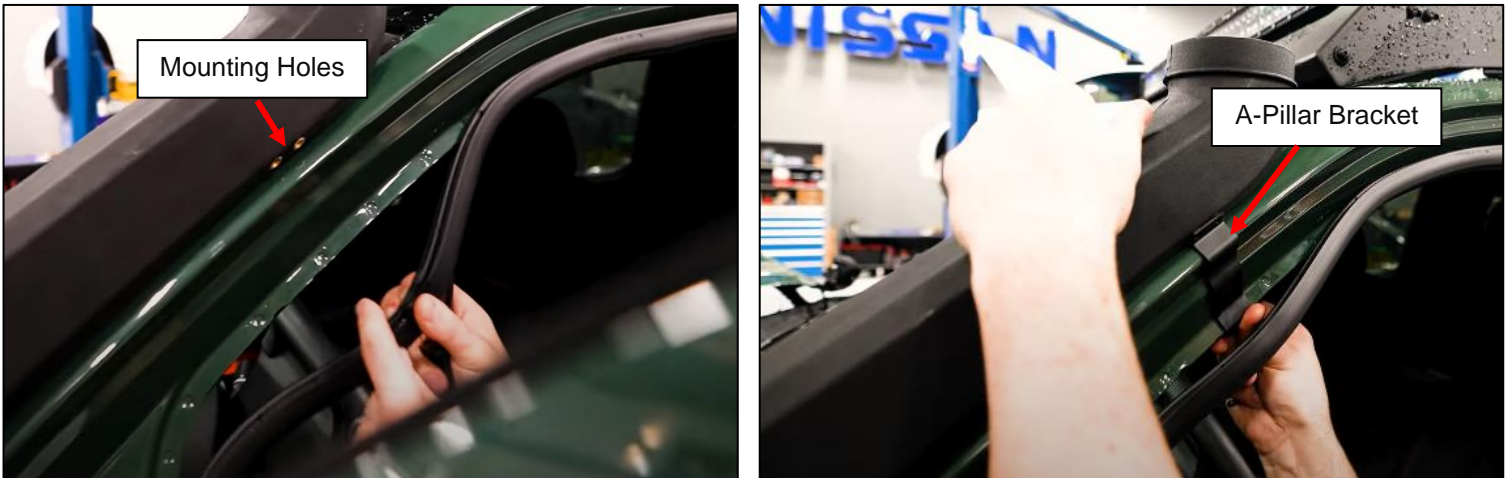

Figure 13
20. Locate (3) three M8 x 1.25 Hex Head Screws, 12mm, and (3) three M8 Oversized Washers. Position a Washer over each bolt, and apply RTV to the threads of each bolt. Install each bolt from inside of the Fender Well into the Snorkel Upright. Tighten by hand at first, and then tighten with a wrench.
- NOTE:** Do not overtighten the (3) three bolts, as Snorkel Upright could crack. Tighten enough that the Snorkel Upright is firmly attached and snug to the front fender.
21. Once the Snorkel Upright has been positioned, locate the A-Pillar Bracket. Pull back the weather seal inside of the the driver side door. Install the A-Pillar Bracket onto the pinch weld, and position it to line up with the Snorkel Upright mounting holes. *Figure 13*.